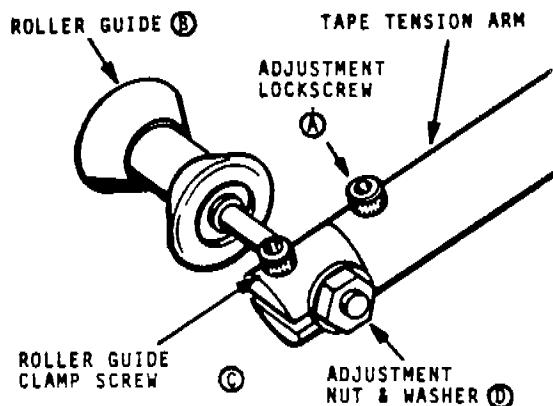

Figure 4-7. Roller Guide Adjustment
- a. Loosen roller guide split clamp screw (C) and remove roller shaft from tension arm. Do not loosen the adjustment lock screw (A).
- b. Insert new roller guide shaft and clamp lightly by tightening split clamp screw (C).
- c. The shaft end is threaded to allow use of a nut for fine adjustment. The thread does not enter the clamp area. Place several No. 10 flat washers over the threaded end and install a 10-32 nut as shown in Figure 4-7.